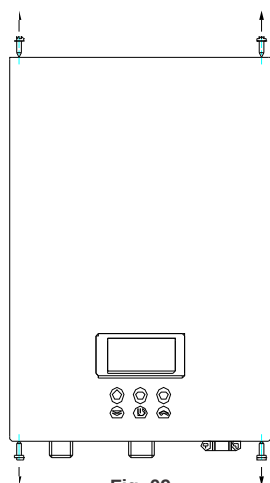
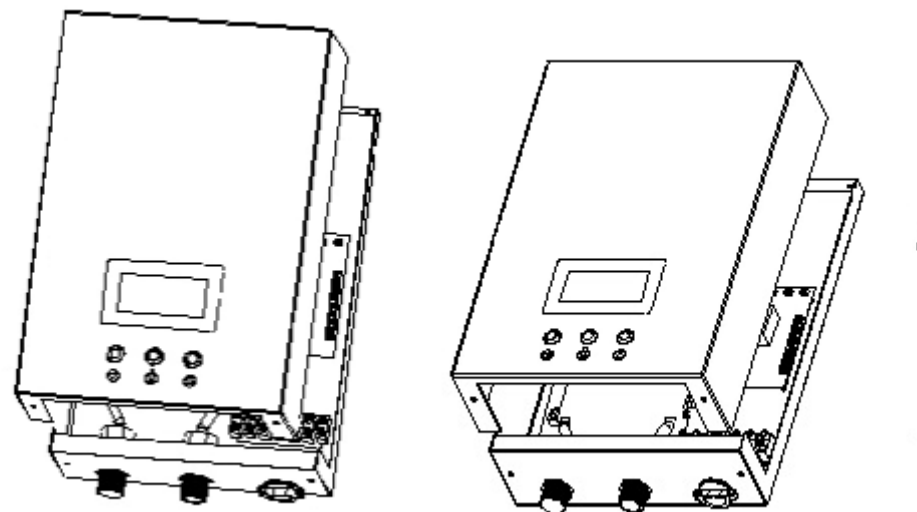

Fig. 09
Fig. 10
Remove (4) screws and washers (Fig 09) from the unit to free the front cover. Carefully lift the front cover off the unit a few inches. Disengage the plug connecting the front cover LCD panel to the body of the unit (Fig 10). Remove the cover completely.